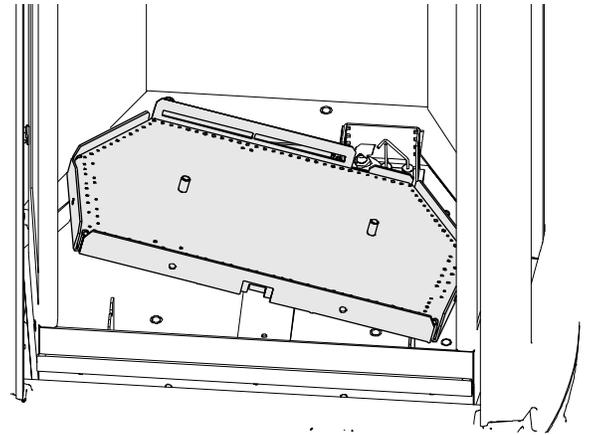

Figure 7.2. Remove Burner.
4. **Remove the Burner:** Lift the front of the burner base to disengage it from the support brackets and pull it forward off of the burner injector. Then tilt it side-to-side and pull it out through the door opening. Fig. 7.2.